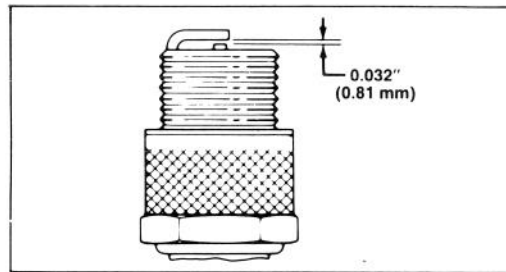

Figure 10
3. Set air gap at 0.032" (0.81 mm) (Fig. 10). Install correctly gapped spark plug and gasket seal. Tighten plug firmly to 10 ft-lb (13.6 N·m).